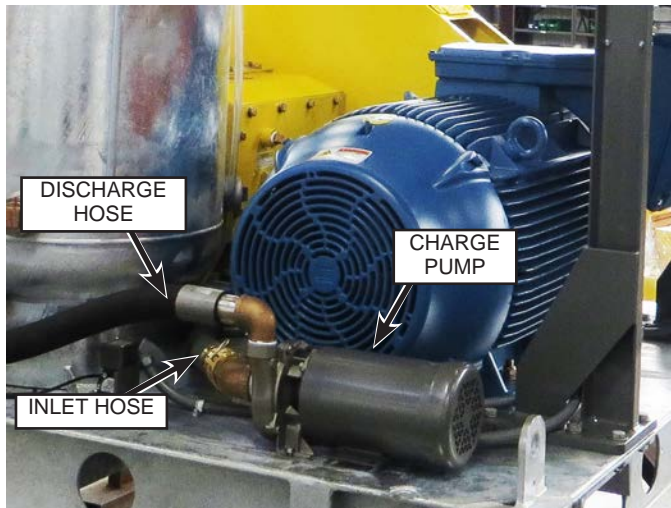

Fig. 21: Charge Pump
13. (Charge pump-equipped units) Disconnect the discharge hose (Fig. 21) and inlet hose from the charge pump. Drain the water from the hoses and reconnect.